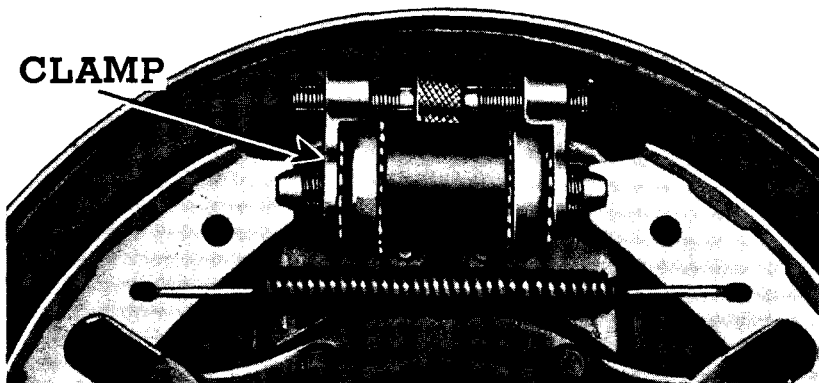

Figure 4—Brake Wheel Cylinder Clamp
(6) INSTALL WHEEL CYLINDER CLAMP (fig. 4).